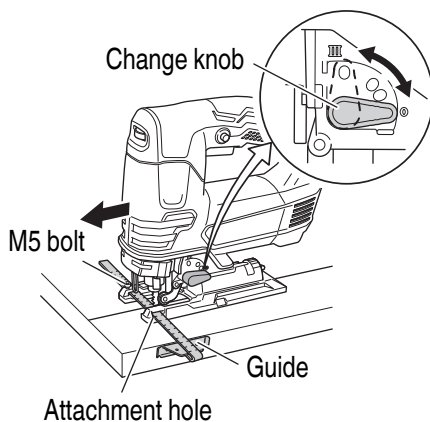

Fig. 12
- (3) Attach the guide by passing it through the attachment hole on the base and tighten the M5 bolt. (**Fig. 12**)
- (4) Set the orbital position to "0".
To ensure accurate cutting when using the guide (**Fig. 12**), always set the orbital position to "0".